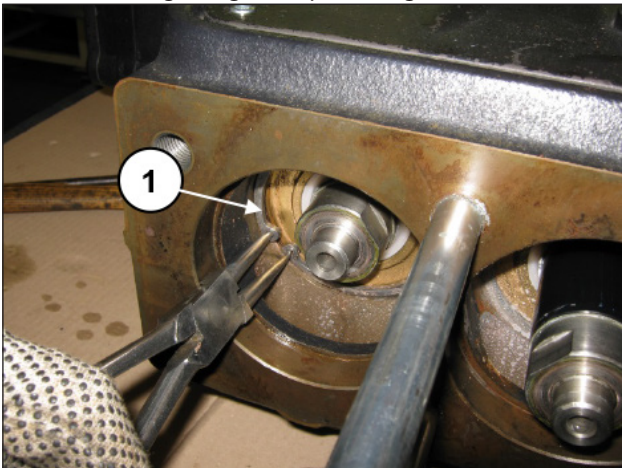

Fig. 110
Remove the Seeger rings Ø92 (pos. ①, Fig. 110).